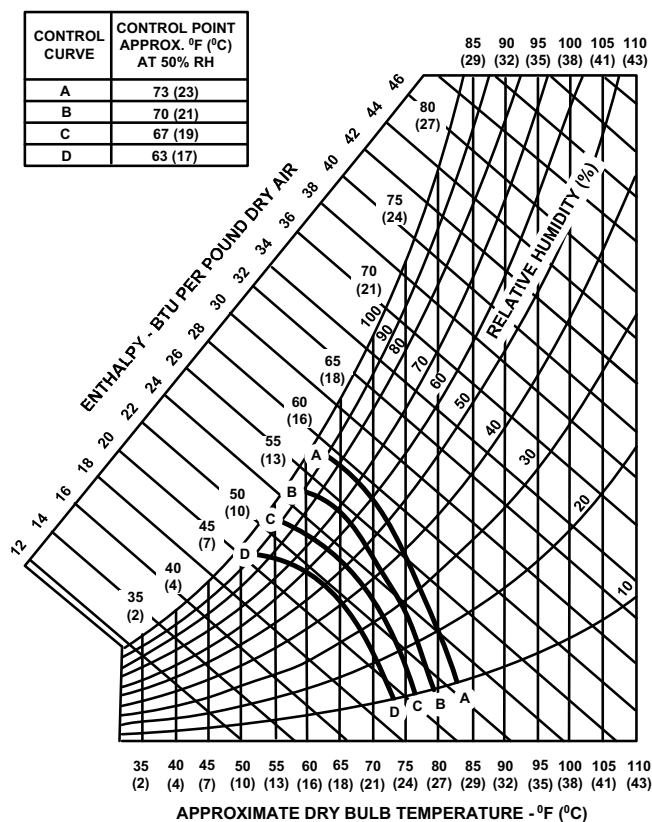

Figure 26: Enthalpy Set Point Chart
- The enthalpy set point may now be set by selecting the desired set point shown in the Enthalpy Set Point Adjustment Figure 26. Adjust as follows: